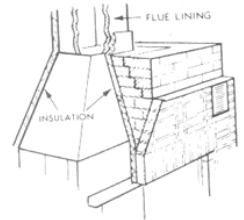

Fig. 7: Brick should be corbelled to support chimney
Step 7: When the face of the fireplace has been built up to desired height, start corbelling the masonry back to meet the dome of the smoke chamber and the flue lining. Be sure the smoke chamber is covered with insulation. See that tight connection is made to the flue lining and that plenty of insulation is packed loosely around the place where the flue lining meets the smoke chamber. Do not allow the flue lining to rest on the Circulator; the lining must be supported by the chimney masonry. (See Figure 7.) Refer to NFPA 211 for proper masonry chimney construction and clearances.